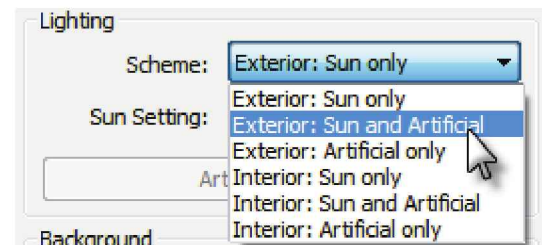

FIGURE 13-2.12 Lighting options
25. In the *Lighting* section, click the down-arrow next to *Scheme* to see the options. Select **Exterior: Sun and Artificial** when finished (Figure 13-2.12).